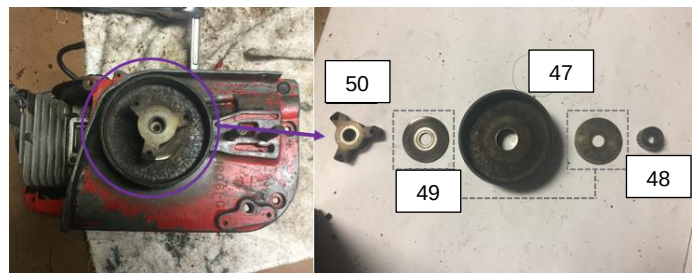

Figure 23: Clutch Housing Disassembly
Step 20: Manually remove the Clutch Nut (50), two Clutch Washers (49) and the Clutch Bearing (48). Use a Flathead Screwdriver and Hammer to force the Outer Clutch Housing (47) off the main assembly (Figure 23).